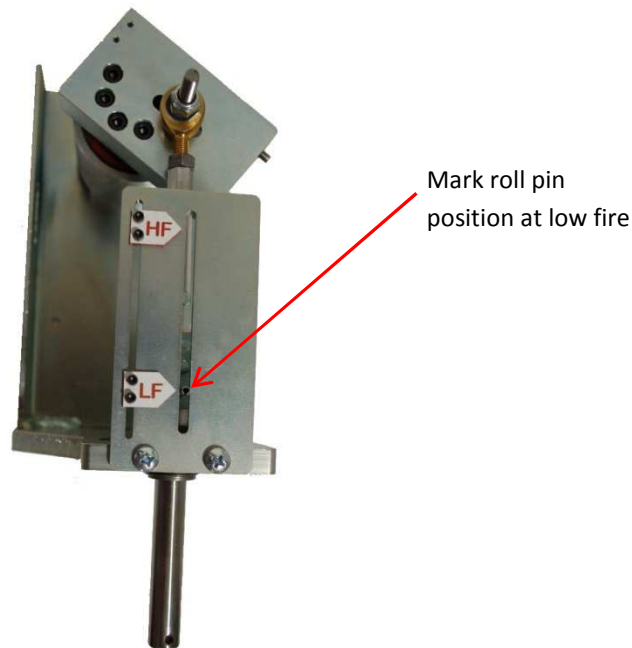

Figure 19: Mark the Low Fire Position
11. Mark the low fire point on the indicator bracket as shown in Figure 19 below.